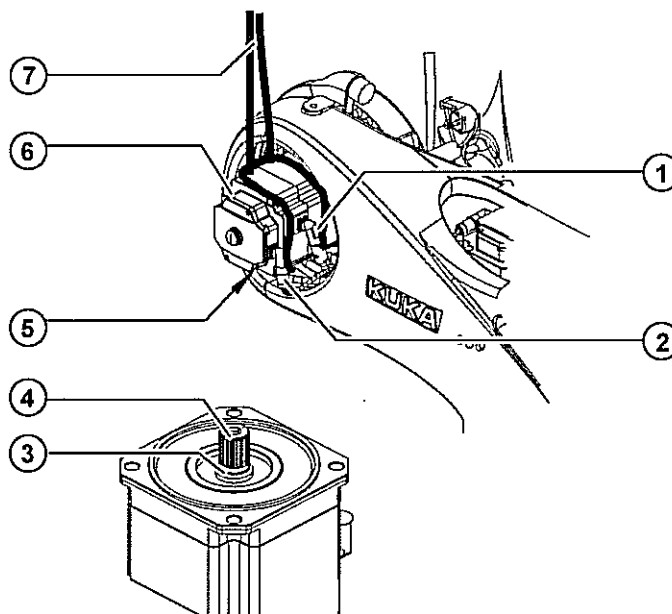

Fig. 12-5: Installing motor A2
1. Remove all protective coatings and oil from new motor A 2 (>>> Fig. 12-5).